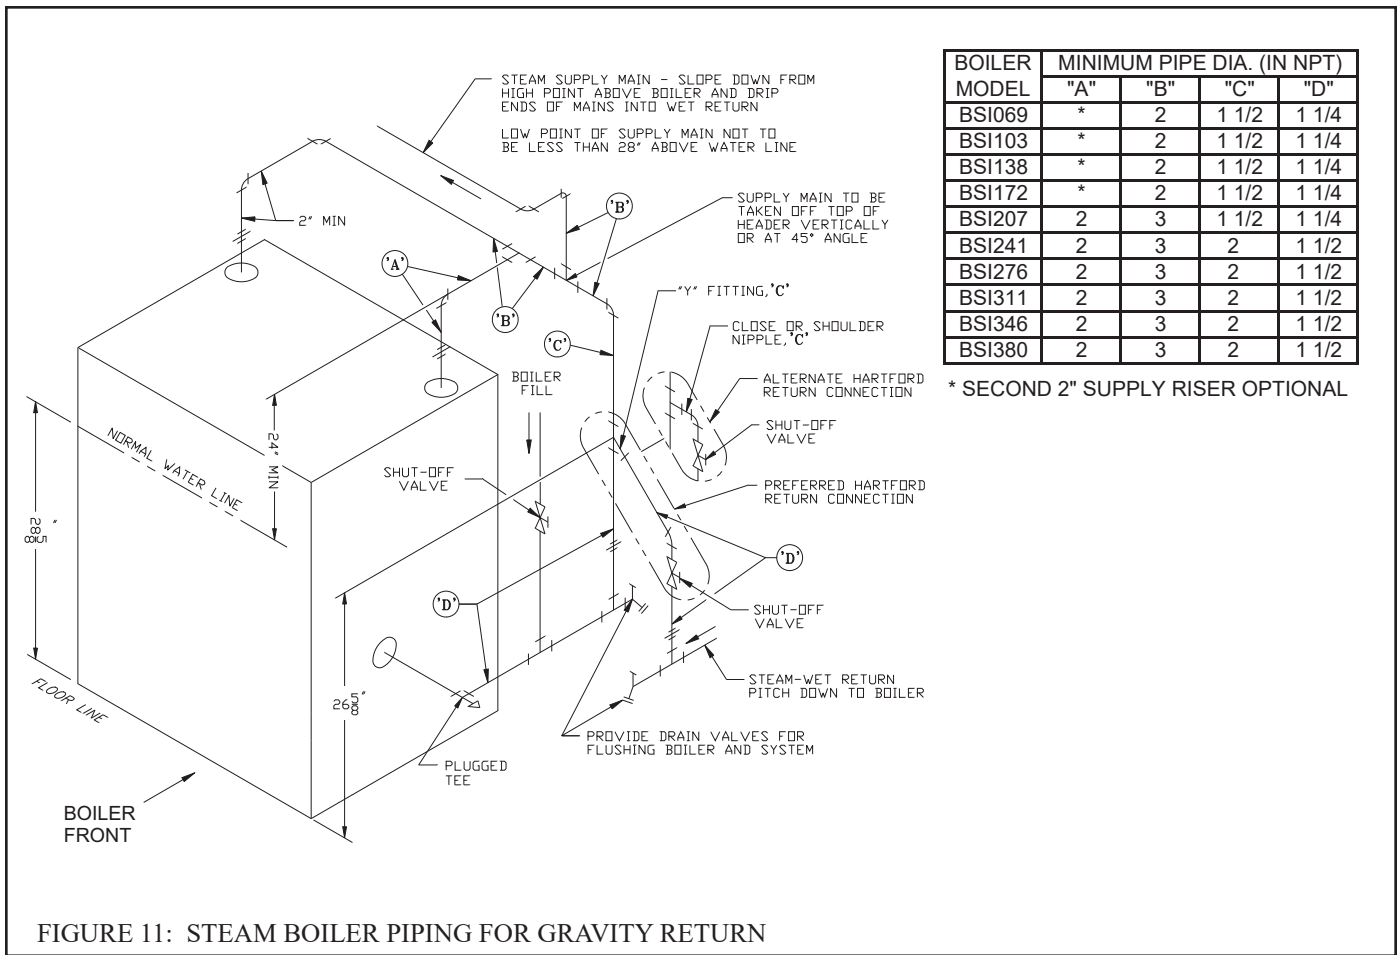

FIGURE 11: STEAM BOILER PIPING FOR GRAVITY RETURN
Figure 11 shows recommended near boiler piping for most common types of gravity return steam systems. Additional information on steam system design may be found in *Installation Guide for Residential Hydronic Heating Systems* (Pub. #200) published by the Hydronics Institute in Berkeley Heights NJ.
- 5) Connect system supply and return to boiler. See Figure 11. The BSI069 - BSI172 require only one supply riser. Two supply risers are required on the BSI207 and larger sizes.